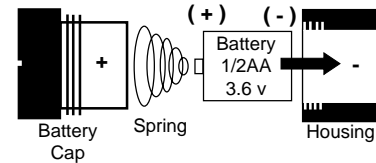

Fig. 63 - Battery Installation
- Insert the spring into the battery cap with the large end first (small end facing out), and insert the battery into the housing (Fig. 63, page 79). For the Transmitter, the positive (+) end of the battery goes into the housing first with the negative (-) end toward the cap. For the Display Module, the negative (-) end of the battery goes into the housing first with the positive (+) end toward the cap.